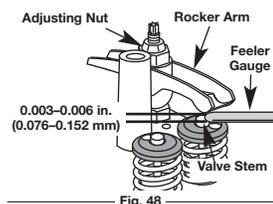

Fig. 48
1. Stop the engine and allow it to cool. Remove the six (6) screws on the back of the engine cover with a Flat-head or T-25 Torx screwdriver (Fig. 48).